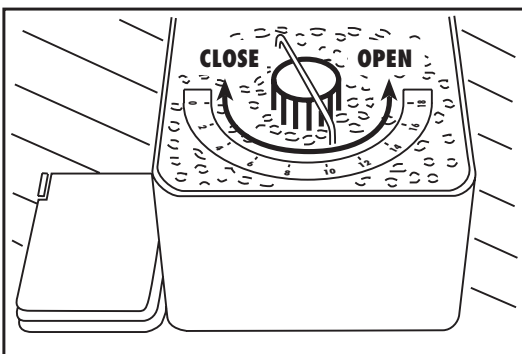

Fig. 9
- Fill the container with fresh coffee beans. Check that the knob of the coffee bean hopper is turned counterclockwise on "OPEN" (fig.9).
If after having refilled the bean hopper the led is still on, check that the CLOSING knob is turned to "OPEN" (fig.9).